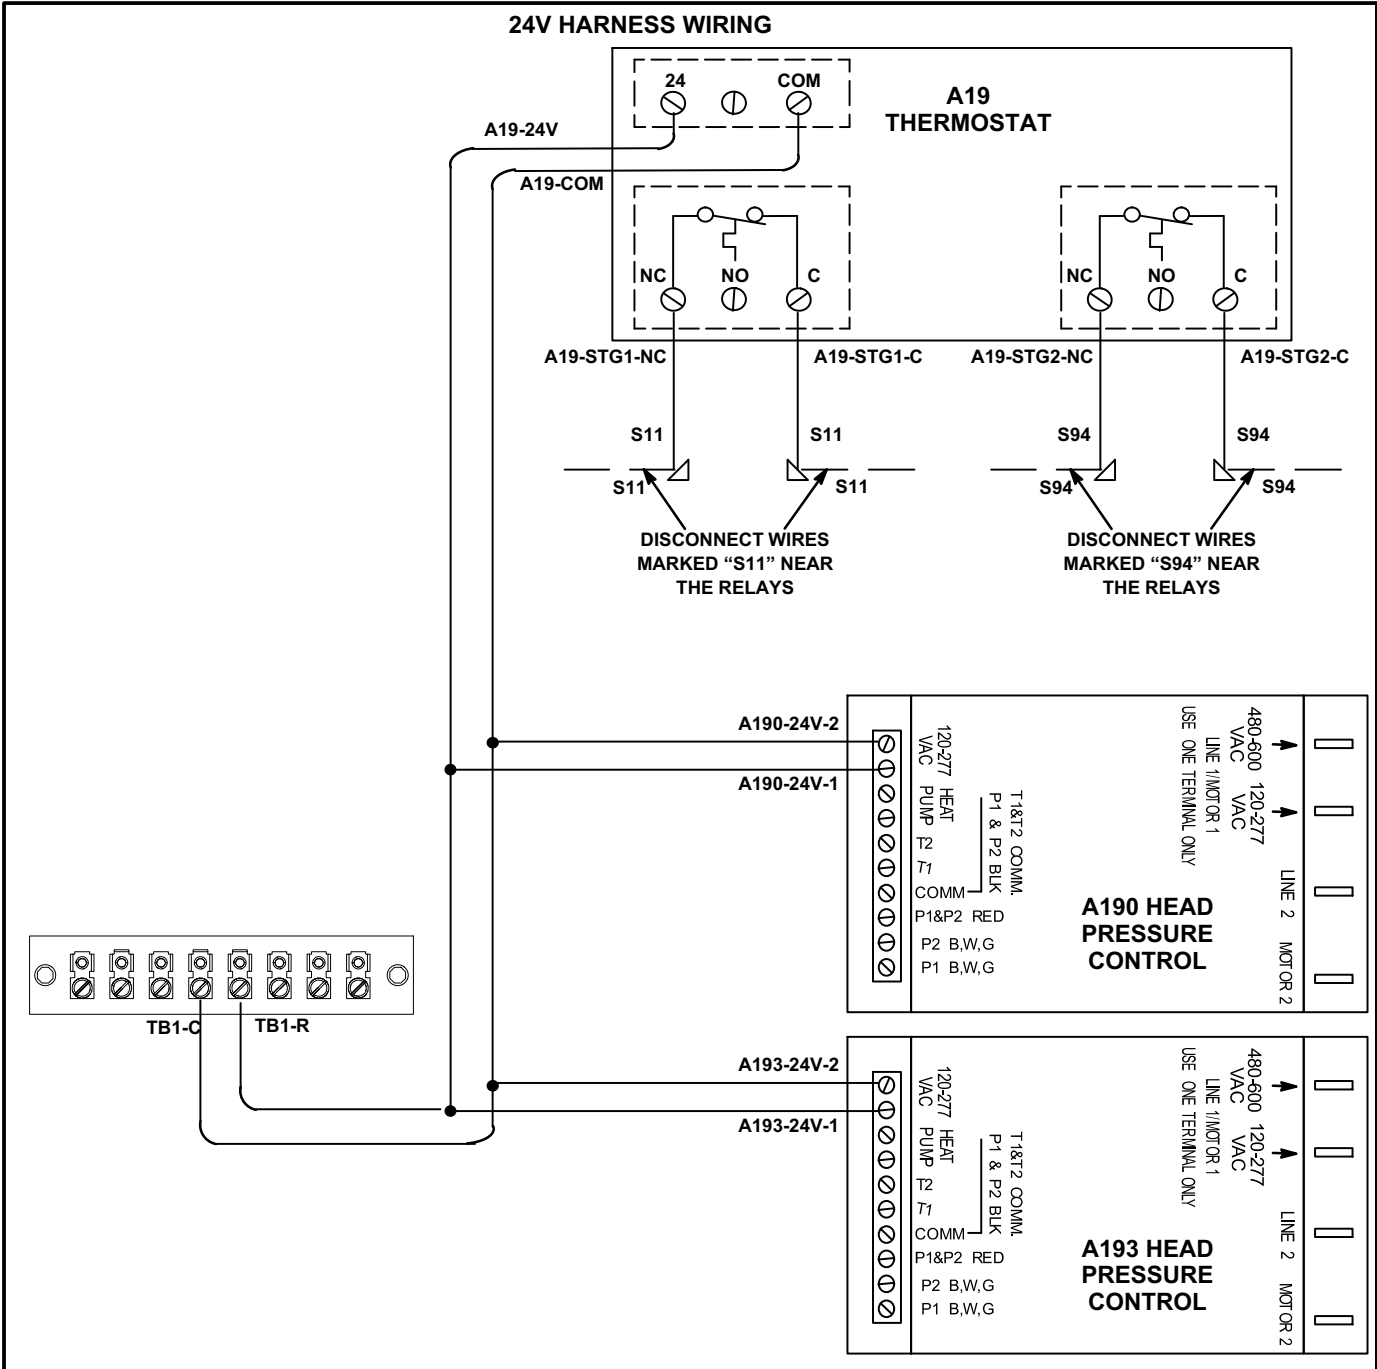

FIGURE 5
- 3- Make 24V wiring connections as shown in figure 5. Harness is provided in kit.